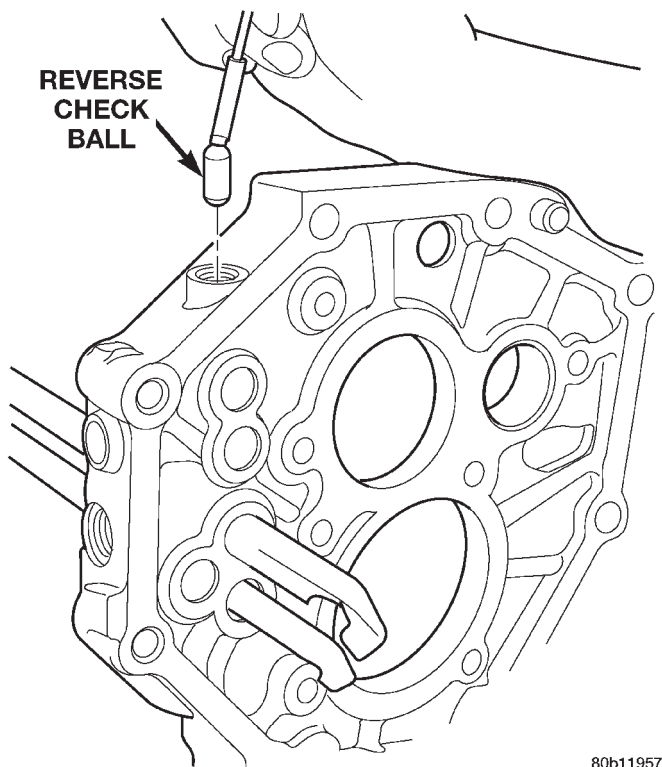

Fig. 72 Remove Reverse Check Ball
(29) Remove reverse elongated check ball (Fig. 72).